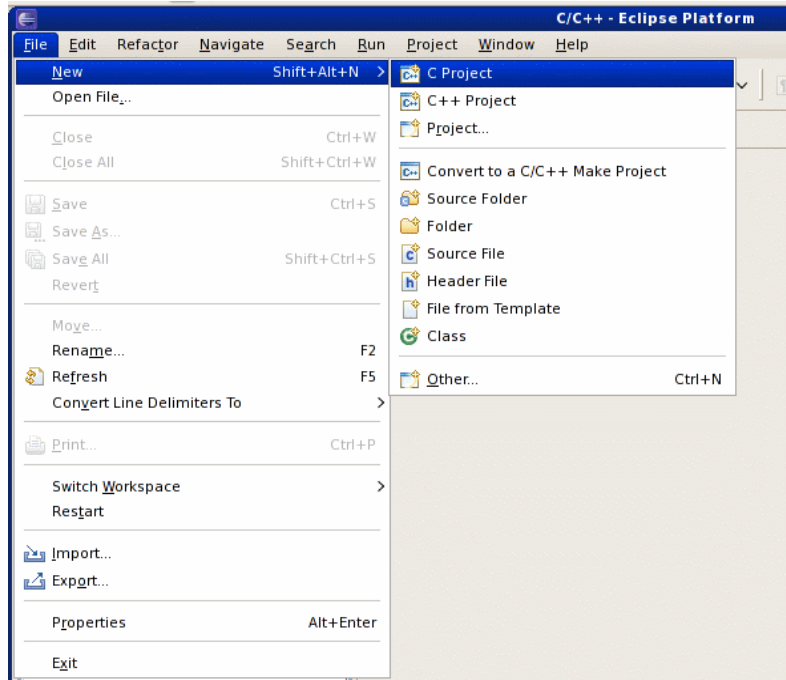

Figure 1. Creating a New C Project
3. Create a new C project of type executable as shown in Figure 1.